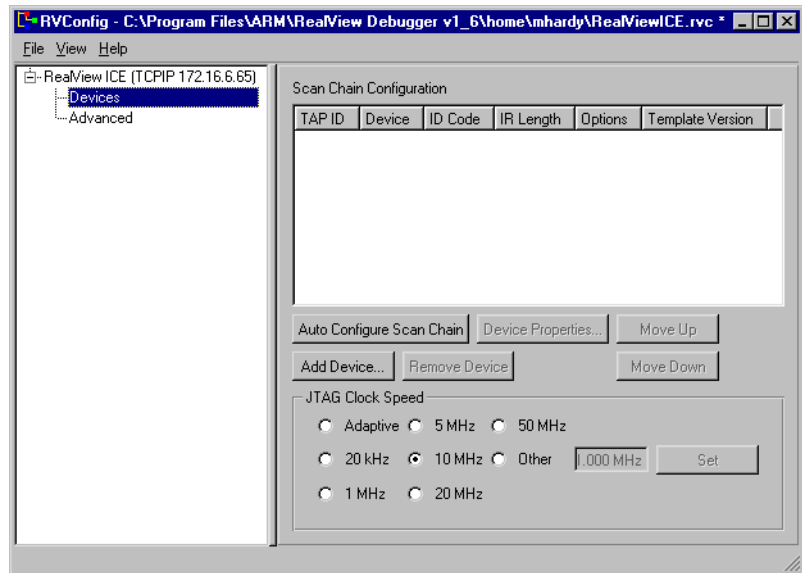

Figure B-3 The RVConfig dialog box
8. Configure the RealView ICE target using the RVConfig dialog box shown in Figure B-3 on page B-4.